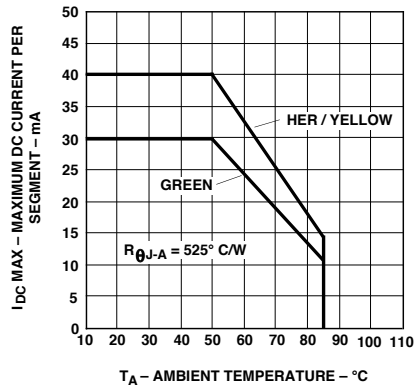

Figure 8. Maximum allowable DC current vs. ambient temperature.
- See Figure 8 to establish pulsed conditions.